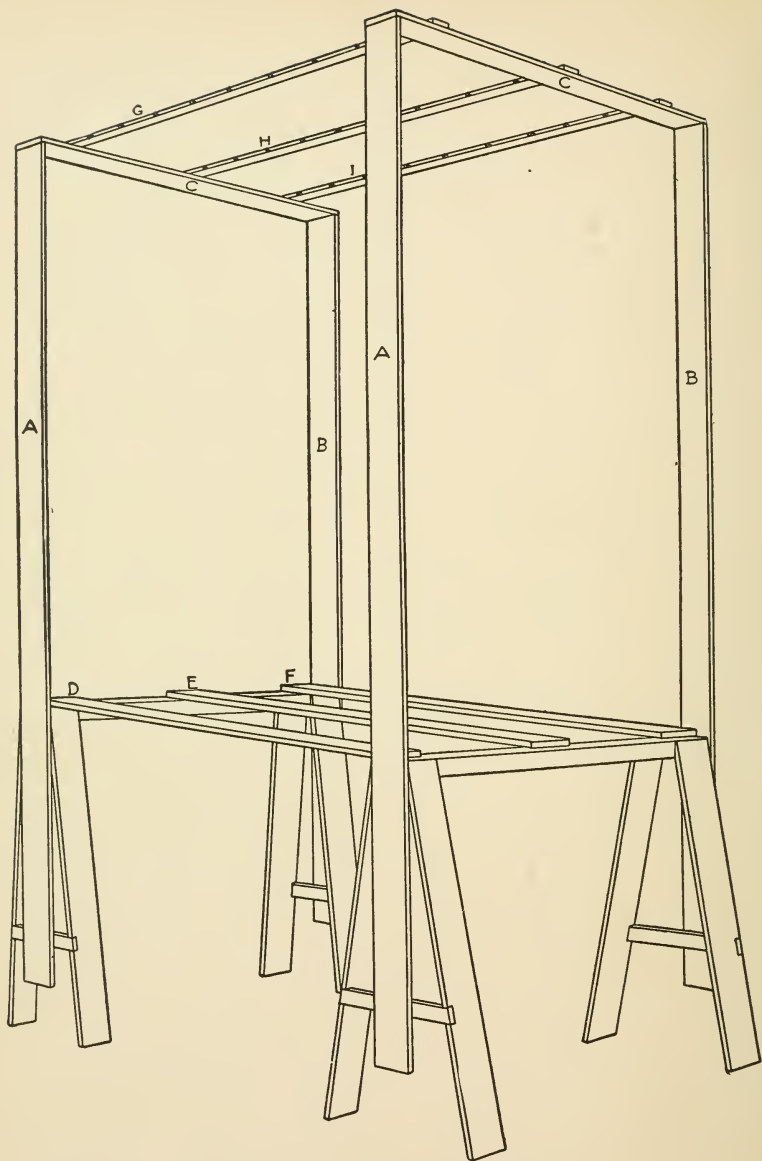

FIG. 317. — The Stage Framework.
On the opposite page is shown a miniature theatre completed, and in Fig. 317 will be seen the proper construction of
and built upon two horses the width of the picture-frame. Make the horses as shown in Fig. 317, one two feet six inches high and the other two feet nine inches high, using two-by-fours for the tops and narrow boards for the legs and braces. After constructing the horses, cut four boards seven feet long and nail two to the ends of each (*A* and *B*, Fig. 317), after which cut two pieces to reach across the tops and nail them in place as shown at *C*. Then set the horses five feet apart, with the lower one in front, and screw three boards to the tops as shown at *D*, *E*, and *F*, and three narrow strips to the top of the framework as shown at *G*, *H*, and *I*. Strips *G*, *H*, and *I* form what is known as
**The Gridiron**, or supports from which the scenery drops are suspended, and should have a row of tacks driven into each edge, as shown in Fig. 317, upon which to hang the drops. By fastening the framework together with screws, it may be taken apart after a performance and packed away for another time.